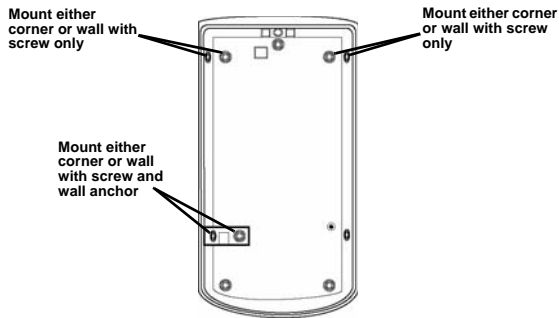

Figure 3 EN1261HT mounting back plate
- a. If using the wall tamper function for increased security, mount the housing back plate per Figure 3, ensuring the tamper switch is depressed.